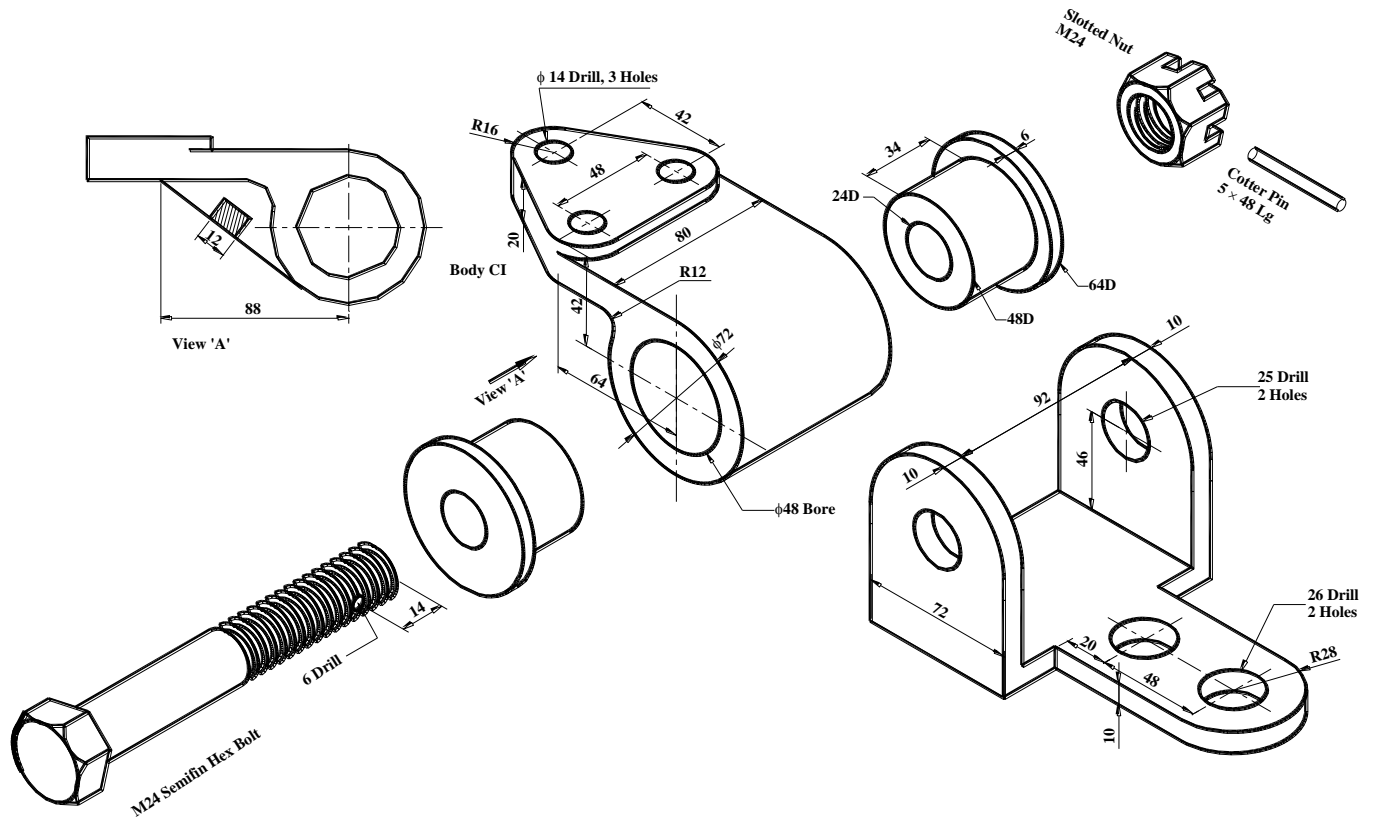

FIGURE T9.3: ANTIVIBRATION MOUNT
3. 3. *FIGURE T9.3 SHOWS THE DETAIL DRAWING OF AN ANTIVIBRATION MOUNT. ASSEMBLE THE PARTS AND DRAW THE SECTIONAL FRONT VIEW AND THE SIDE VIEW.*